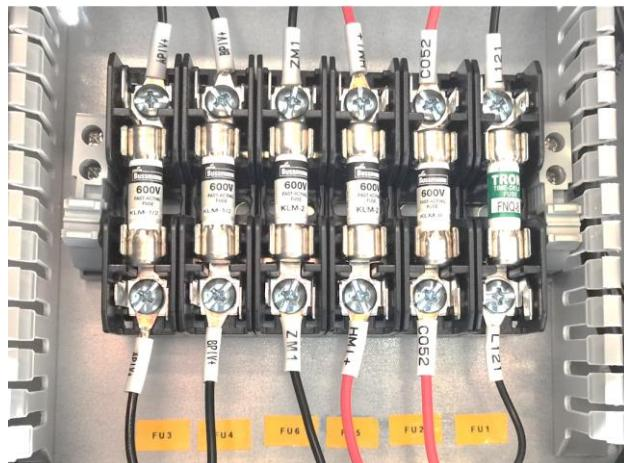

Fig. 6-13 Type and ratings of fuses
- h) To reduce the risk of fire, replace only with same type and ratings of fuse as shown in Fig. 6-13.